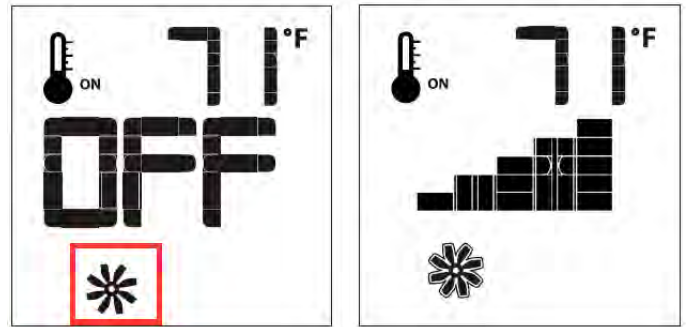

Figure 20 Sec.10 **Fan Speed Control**
The fireplace is equipped with optional hot air circulating fans. The speed of the fans can be controlled by the Proflame system. The fan speed can be adjusted through six (6) speeds. To activate this function use the Mode Key, see **Figure 8 Sec.10**, to index to the fan control icon, see **Figure 20 Sec.10**. Use the Up/Down Arrow Keys, see **Figure 8 Sec.10**, to turn on, off, or adjust the fan speed, see **Figure 20 Sec.10**. A single "beep" will confirm reception of the command.